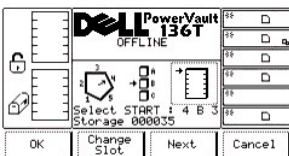

Figure 40. Command > Move > Scan Barcode > Change Slot Dialog
- 1 If the button beneath the **Next** softkey is selected, the current source parameter changes from magazine to slot and the Change Slot Dialog is displayed. Refer to Figure 40.